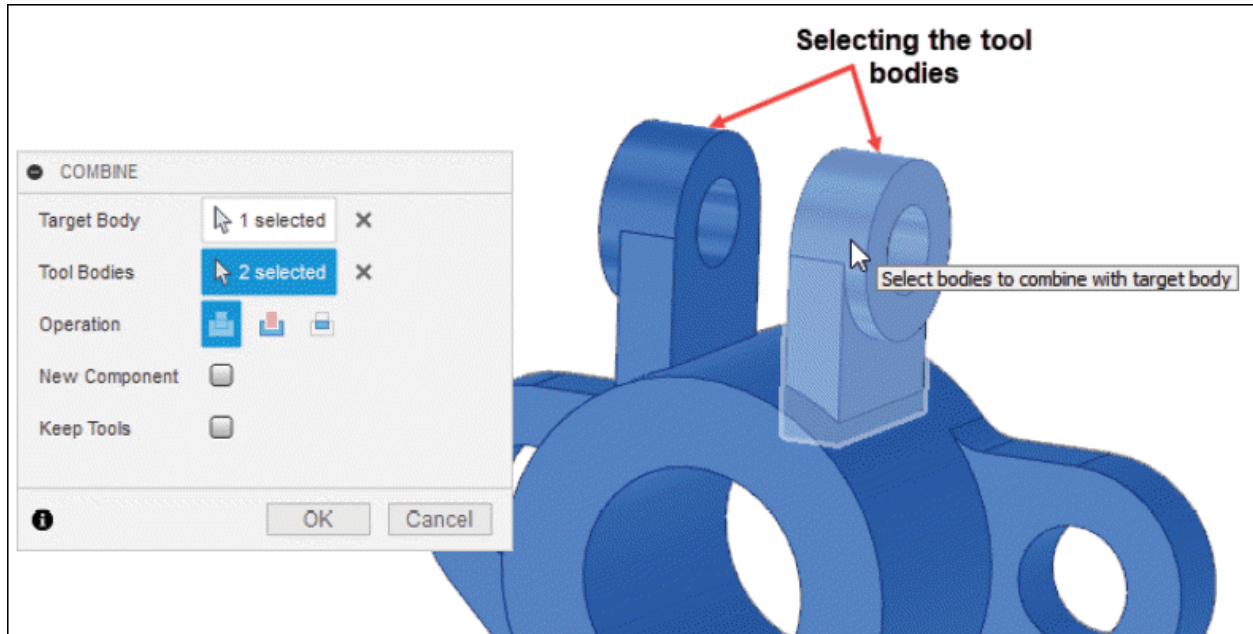

Figure-61. Selecting the tool bodies
- The **Select** button of **Tool Bodies** section is active by default. Select the bodies to combine with target bodies as shown in Figure-61.